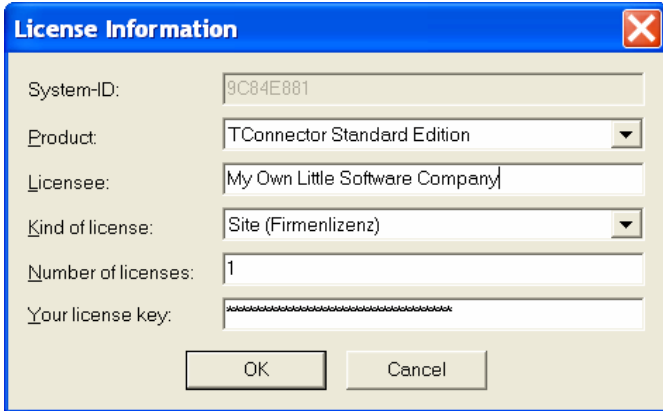

Fig. 9: License dialog
3. The license dialog (Fig. 9) should now open